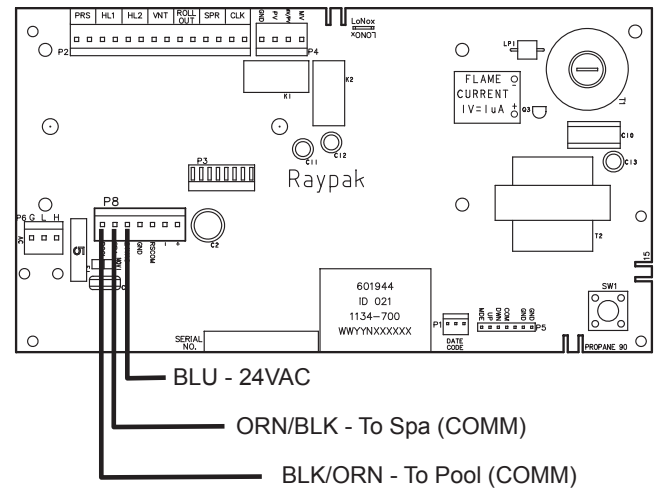

Figure 51. 3-Wire Remote Harness Installation on the P8 Connector of the Board
5. Install the "Remote Interface Harness" to the P8 connector and turn power ON to the heater. See **Figure 51**.